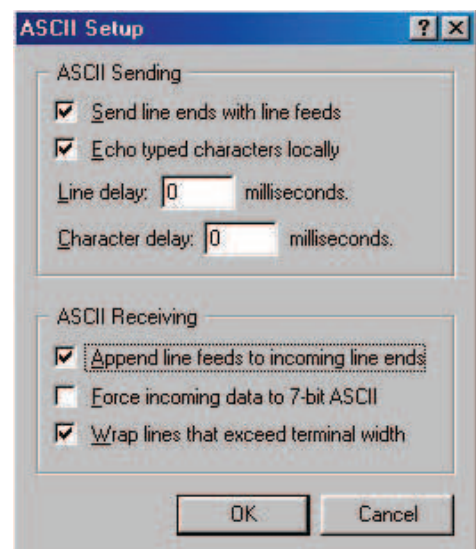

Figure 27
Step 10: Select the fields in the **ASCII Setup** screen (Figure 27) as shown.